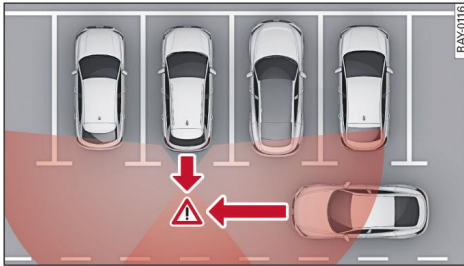

Fig. 126 Areas covered by sensors for rear cross-traffic assist
The rear cross-traffic assist uses the radar sensors at the rear corners of the vehicle to monitor the area behind and to the side of the vehicle. The system can detect moving objects, such as cars, as they approach the vehicle ⇒ *Fig. 126*. When driving out of a parking space, you are assisted by the centre display ① and various warnings.
- The area covered by the sensors ⇒ *Fig. 126* is an example and does not represent the range of the sensors to scale.